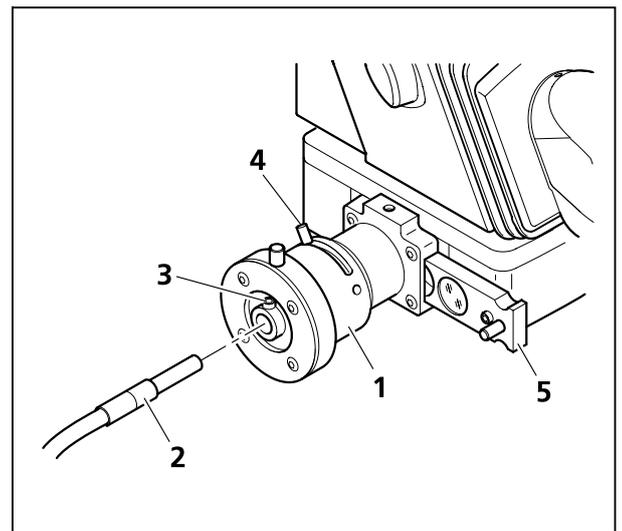

Fig. 23 Connecting the optical fiber of the X-Cite illuminator to the PentaFluar S/X-Cite
Make sure the light source is switched off or the shutter slider (Fig. 23/5) pulled out.
- Undo clamp screw (Fig. 23/3) for optical fiber on the mounting port (Fig. 23/1) of the PentaFluar S/X-Cite vertical illuminator using the SW 1.5 mm offset Allen key.
- Push the optical fiber (Fig. 23/2) as far as it will go into the mounting port and clamp the clamp screw (Fig. 23/3) using the SW 1.5 mm key.
- Lever (Fig. 23/4) serves to open and close the iris diaphragm.
- The shutter and filter slider (Fig. 23/5) has three functional positions: